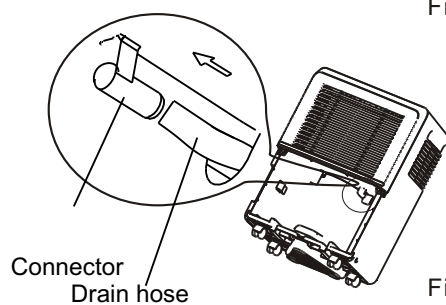

Fig.9
- Remove the plastic cover from the back drain outlet of the unit and set aside and remove bucket, then insert the drain hose through the drain outlet of the unit and securely press it into the connector on the front of the unit. (See Fig.9)